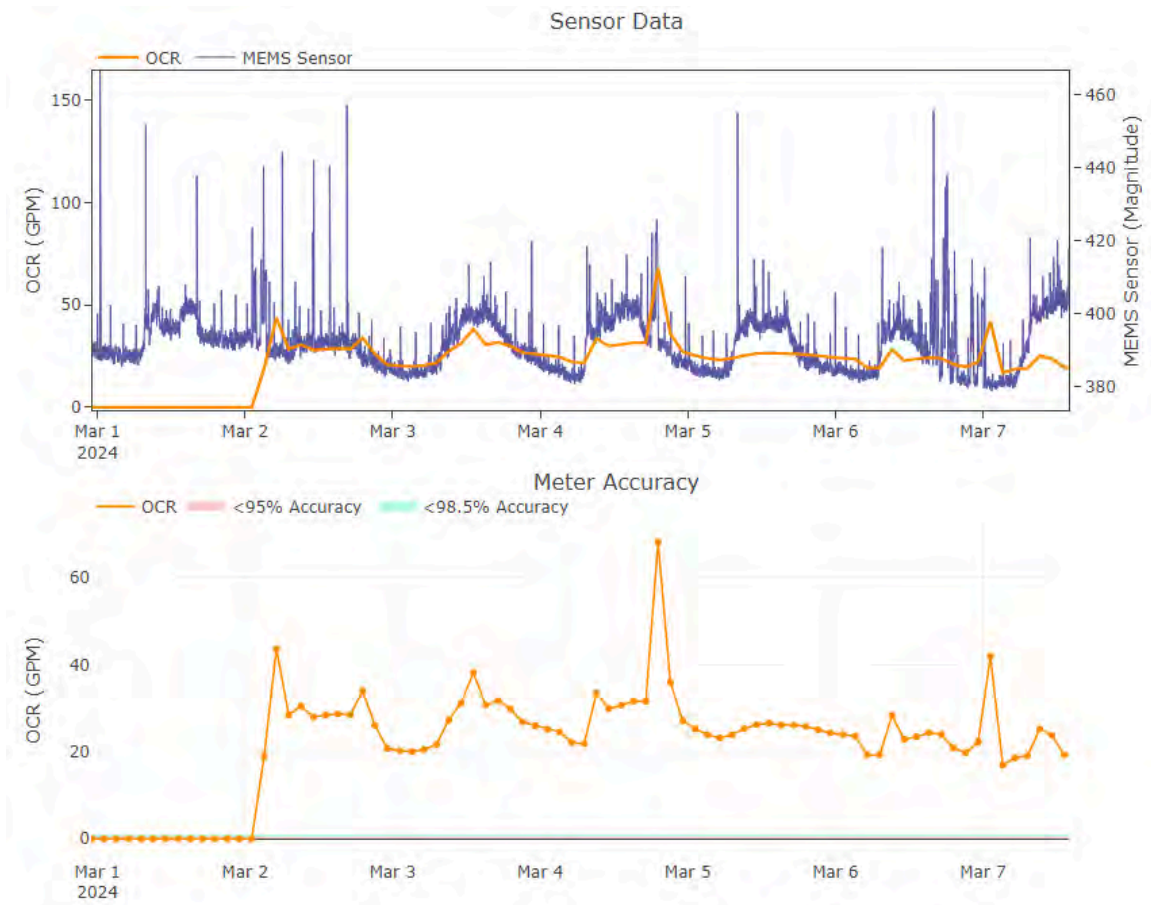

Figure 37 - Post repair 'No Problem Found' meter
- This Sensus compound meter (Figure 37), previously had a failed low flow register. Fullerton staff have completely replaced the Hershey meter with a Sensus meter, and Olea’s MHA technology has identified this meter as ‘No Problem Found’.